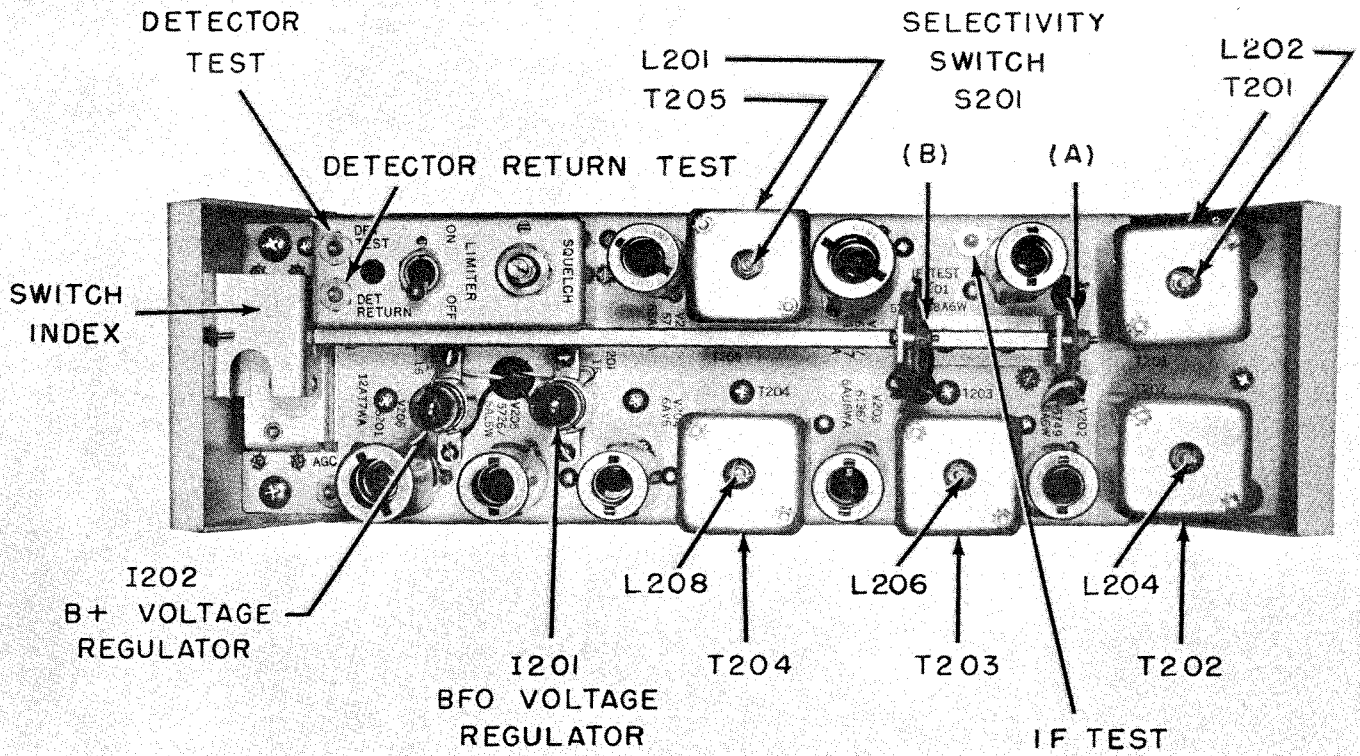
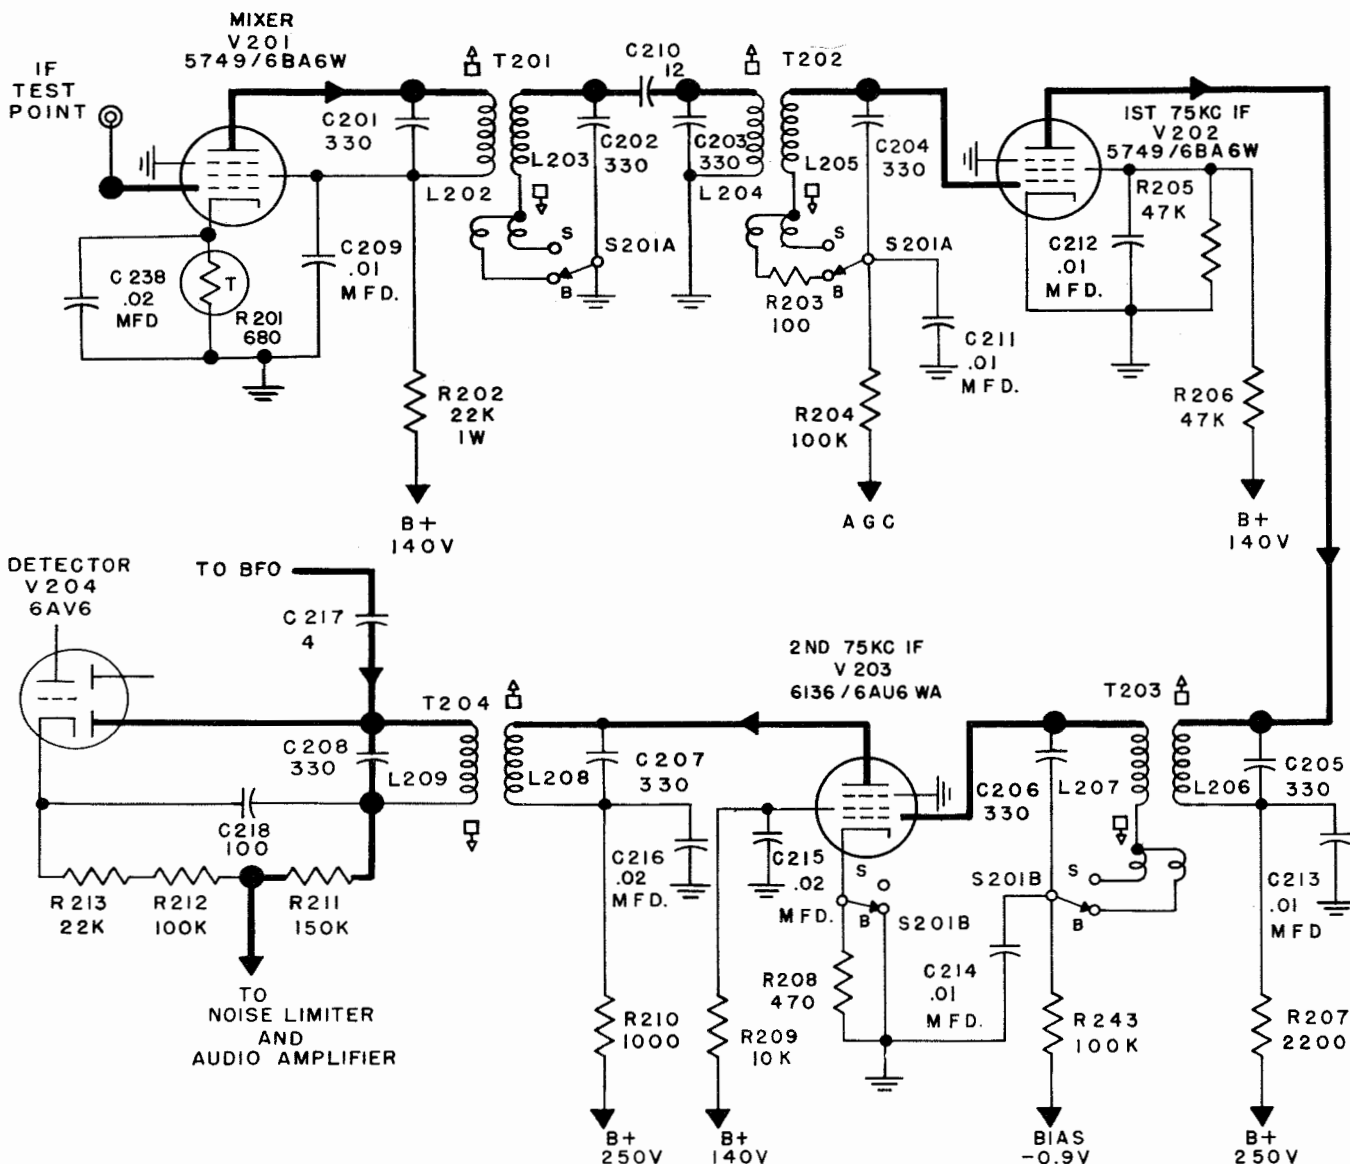

Figure 2-9. Photo—Top View of the IF Chassis
Figure 2-11. Simplified Schematic—Mixer and 75 Kc IF Amplifier
(1) MIXER/75 KC IF AMPLIFIER.—As shown in figure 2-11 a type 5749/6BA6W tube is used as the mixer (V201). The incoming signal and the channel determining oscillator frequencies are present in the grid circuit and combine in this tube to produce the 75 Kc IF frequency which is selected by the plate circuit. A test point is provided on the top of the chassis (see figures 2-9, 2-11) to permit injection of a 75 Kc signal on the control grid of this tube for the alignment of the 75 Kc IF stages. Proper operating bias is provided by means of cathode resistor R211, which is bypassed by C238. R201 is a negative temperature coefficient